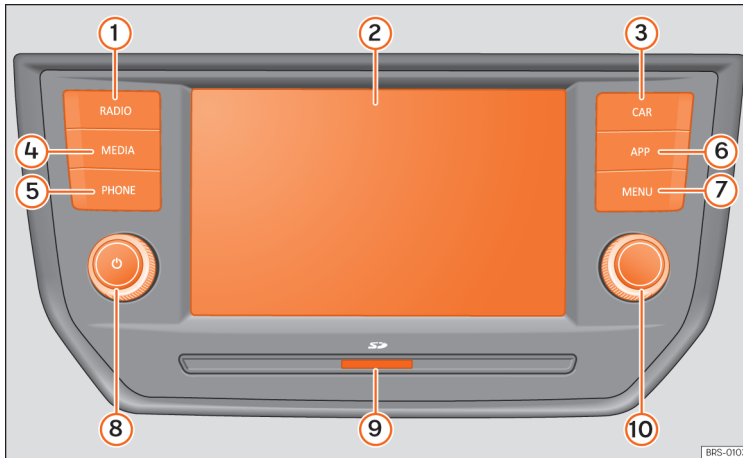
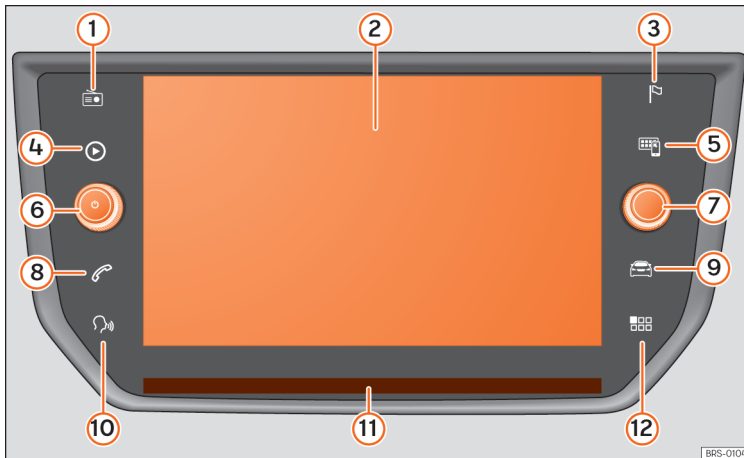

Fig. 172 Overview of the controls [this configuration depends on the version].
Fig.173 Overview of the controls (this configuration depends on the version).
Press the infotainment button **MENU** » Fig. 172 (7), or button **MENU** » Fig. 173 (12) to open the menu summary.
To manually switch the Infotainment system on and off, briefly press the rotary knob **⏻** » Fig. 172 (8), » Fig. 173 (6).
The entries on a list can be activated by pressing them on the screen directly or by using the adjustment button »» **Fig. 172** **10**, »» **Fig. 173** **7**.